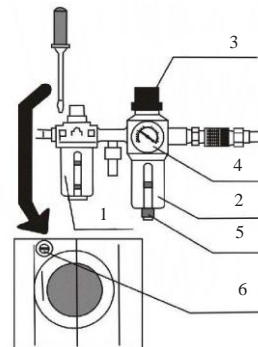

Fig. 9
*As in Fig. 9: 1-Atomized lubricator; 2-Oil water separator; 4-Gas-pressure meter.